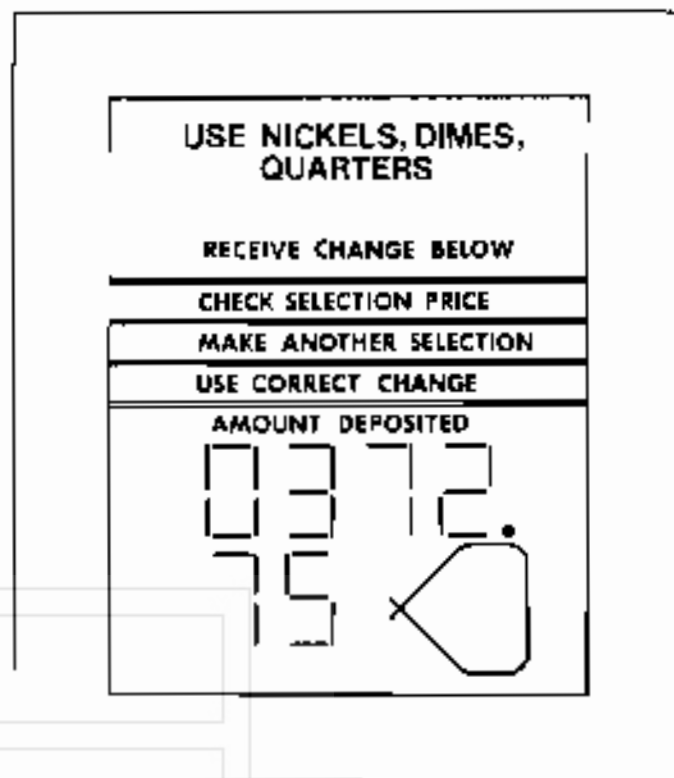

Figure 18. SHOWING \$372.75
- D. Press button 14 on the selection panel and the total dollars vended by the machine will be displayed (Figure 18).